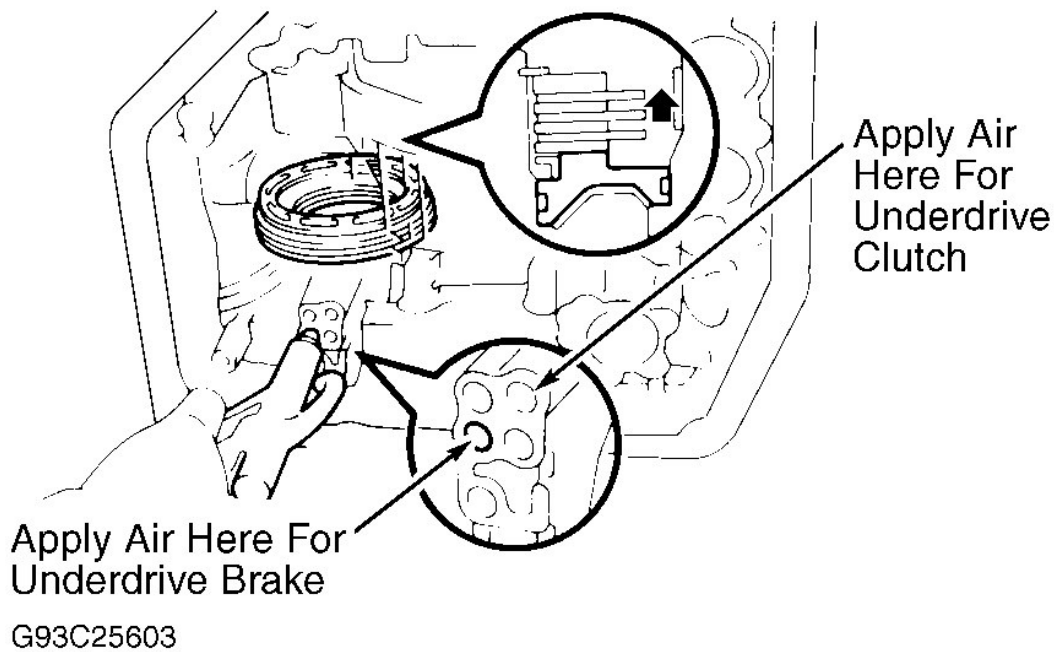

Fig. 19: Checking Underdrive Brake & Clutch Piston Operation
12. Using Puller (09351-32061), remove counterdriven gear. Remove thrust needle bearing. Remove countershaft assembly. Remove thrust bearing and race from countershaft. Remove underdrive clutch drum and anti-rattle clip. Using compressed air, confirm underdrive brake piston operates smoothly. See **Fig. 19**. Remove oil seal rings. Using appropriate press and Adapter (09351-32070), carefully remove underdrive brake snap ring.
13. Remove flange, plates and discs. Note number and location of components. Remove brake return spring. Using compressed air, remove underdrive brake piston. See **Fig. 19**. Using Compressor (09351-32040),